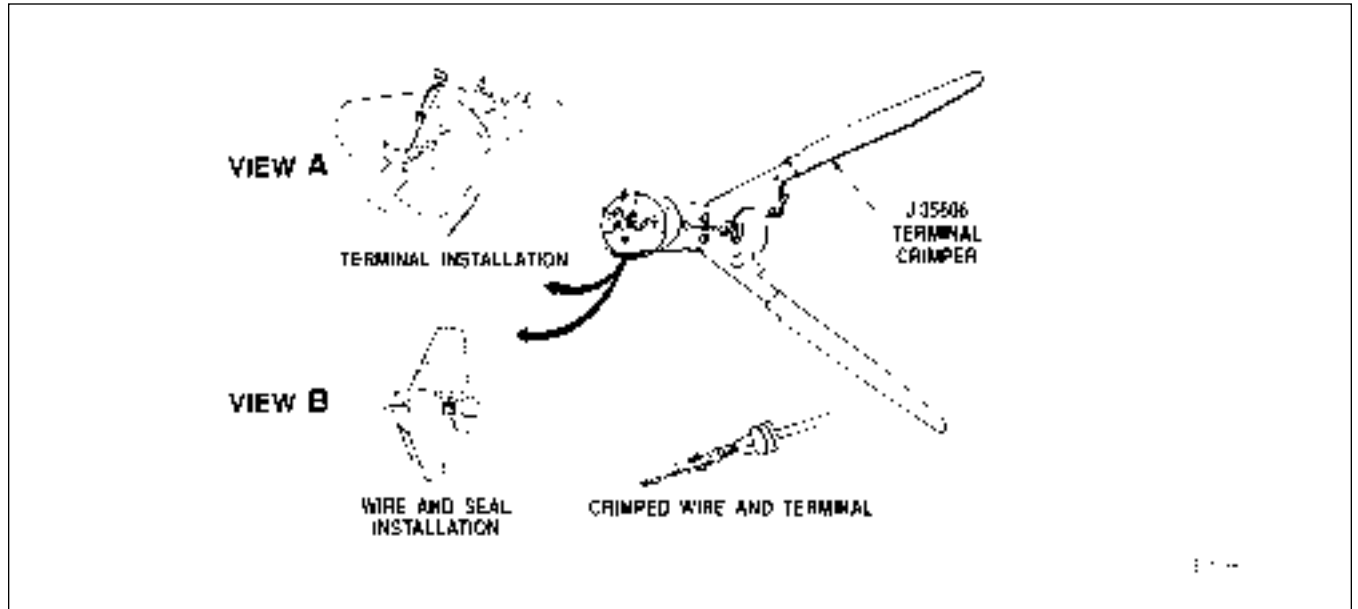

Figure E-8. Terminal Crimping With Tool J 35606
1. Insert removal tool J 38125-13 into the small notch at the front of the connector to release the terminal locktab (Figure E-8, View A).
1. Strip wire to approximately  $4.0 \pm 0.25$  mm ( $0.16 \pm 0.01$  inch) (Figure E-8, View B).
2. Place new terminal onto crimping tool J 38125-7, anvil “E” (Figure E-8, View C).
5. Crimp the stripped section of the wire (Figure E-8, View B).
8. Crimp the insulated section of the wire using anvil “A” of the crimpers (Figure E-8, View C).